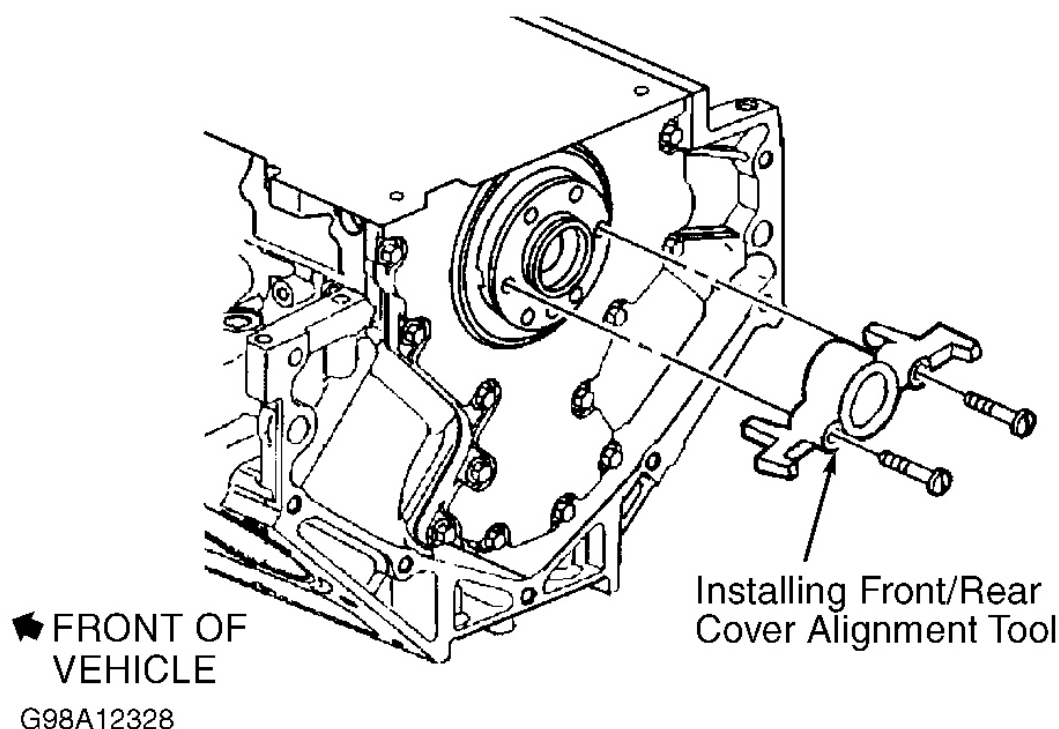

Fig. 9: Installing Front/Rear Cover Alignment Tool
1. Apply a 1/4 inch bead of Sealer (12378190) to corners where oil pan meets block. Install rear cover and NEW gasket, leaving bolts finger tight. Rotate the crankshaft until the 2 opposing flywheel bolts are parallel to oil pan surface. See **Fig. 9**.